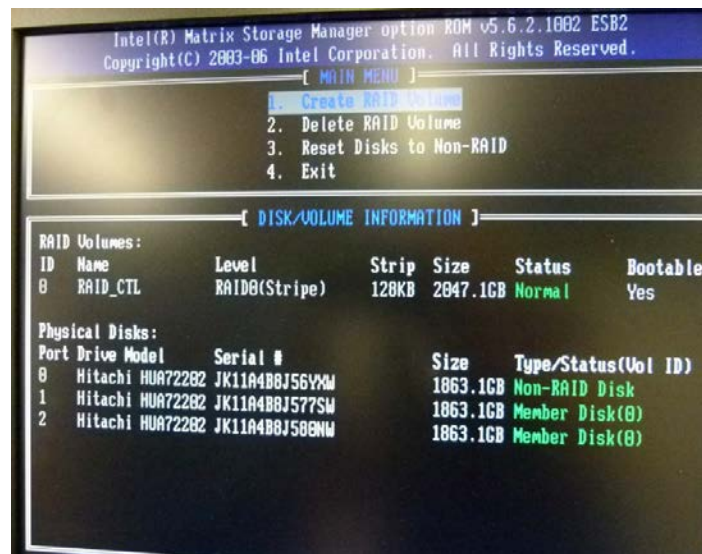

Figure 5: RAID Setup [Main menu]
2. During boot up, system will list all recognized drives and prompt user to enter RAID setup. Enter **CTRL-I** to enter RAID setup, shown in **Figure 5**.